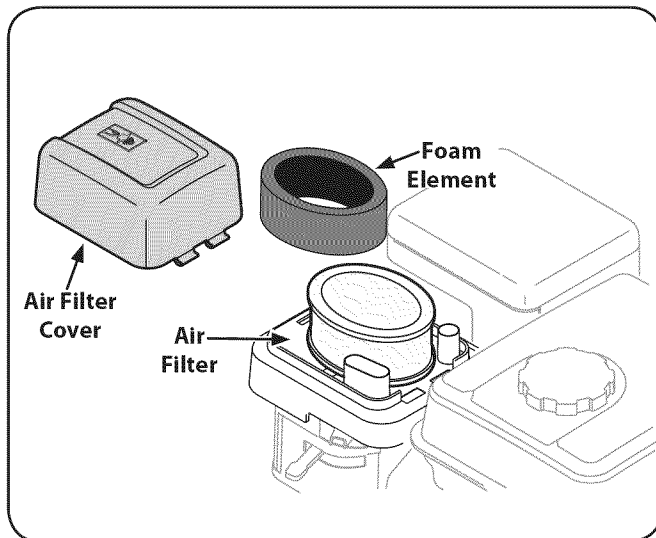

Figure 6-4
1. Press the tab on the air filter cover and lift the cover. See Fig. 6-4.